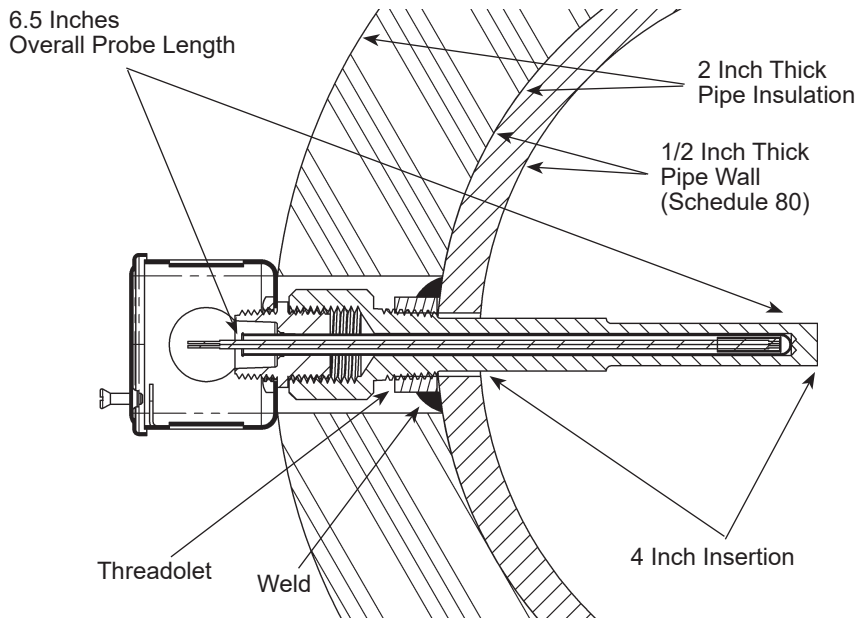

Fig. 8: Typical Installation Identification and Dimensions
- **Application:** Fig 8 shows a typical four-inch thermowell and four-inch immersion probe installed into an eight inch pipe. In a properly insulated pipe with liquid or steam, the temperature is essentially the same across the entire cross section of the pipe. Usually thermowells are sized to extend to the center of the pipe; however, shorter thermowells will give proper temperature readings if properly insulated. The shorter thermowells are used in pipes with high flow velocities. See Application notes "Thermowells Explained" on our website at www.bapihvac.com.